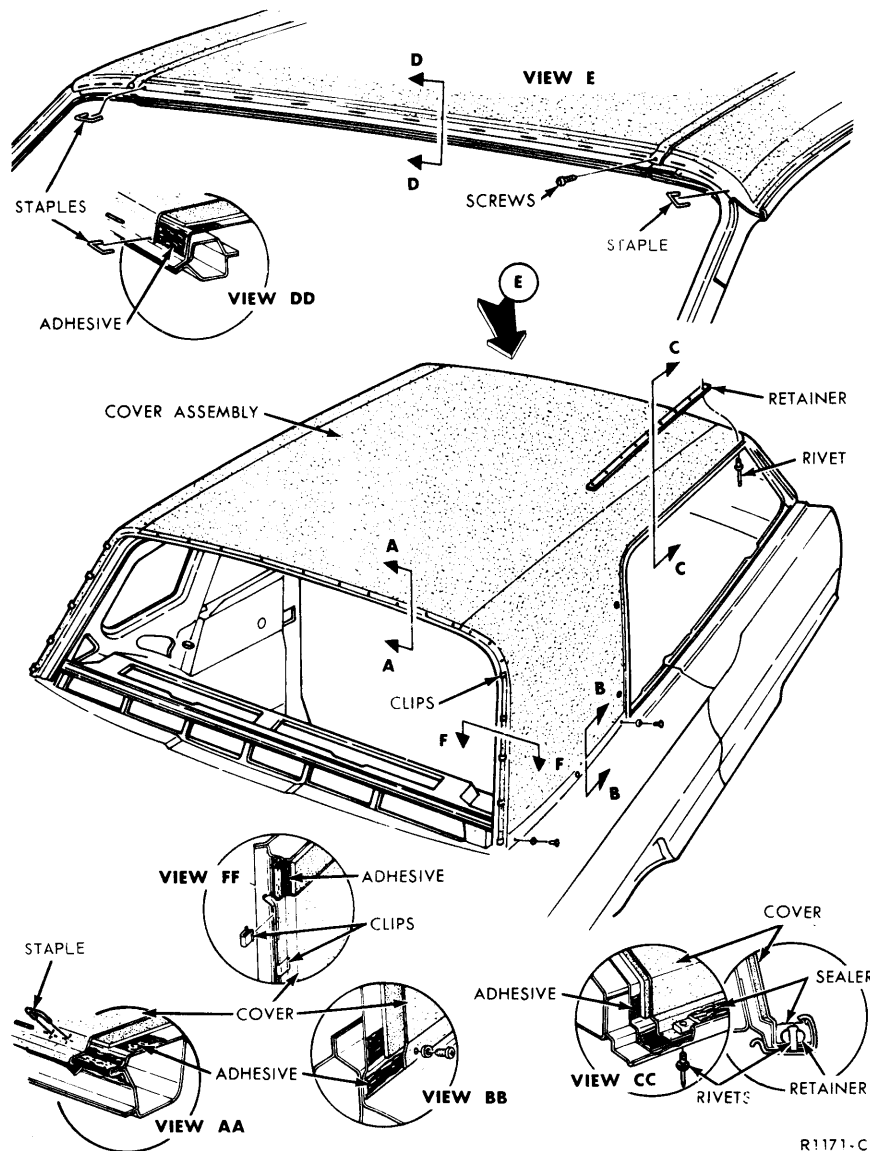

FIG. 9—Landau Top Cover Installation
5. Using a 0.128-0.132 inch diameter drill, remove the pop rivets which attach the retainer strips to the right and left drip rails (Fig. 9).
6. Remove all top cover retaining staples, screws and clips and remove the cover (Fig. 9).
pinchweld flanges (Fig. 9).
6. Apply sealer C3AZ-19562-A (for white tops) or sealer C3AZ-15962-B (for black or darker colored tops) over the entire surface of the drip rail retainers. With the drip rail properly sealed, a minimum depth of $\frac{1}{8}$ inch should be retained for adequate water drainage. Place masking tape on the cover assembly for the entire length of the drip rail before applying sealer. After sealer has been applied, remove the tape. (Refer to Fig. 9).
7. Install five flange clips along each side of the rear window (Fig. 9).